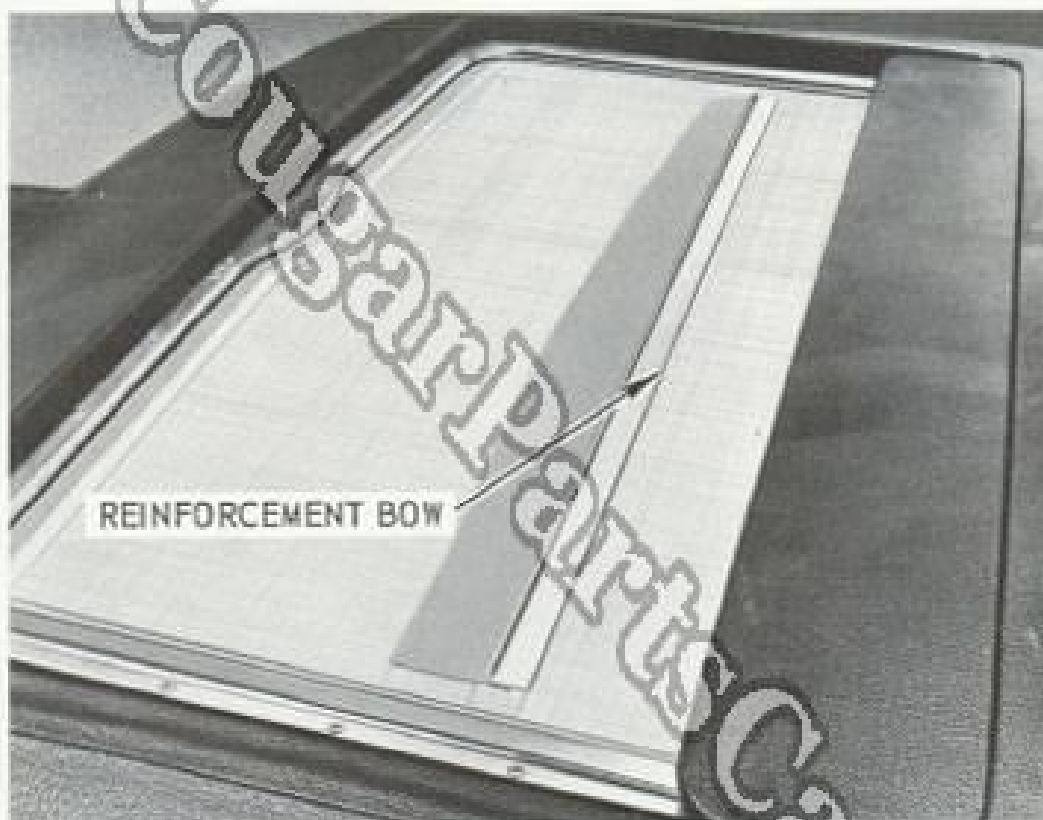

Fig. 27 - Headlining Panel Replacement
31. To obtain a flush fit on one side of the front of the roof panel to roof, loosen both screws on the front slide and turn the knurled caps clockwise to raise the roof panel and counterclockwise to lower the panel. See figure 27. After desired flushness is obtained, tighten screws. Adjust opposite front slide in the same manner, if required.
5. Remove headlining panel reinforcement bow off the headlining by sliding it forward and off the headlining material. See figure 27.